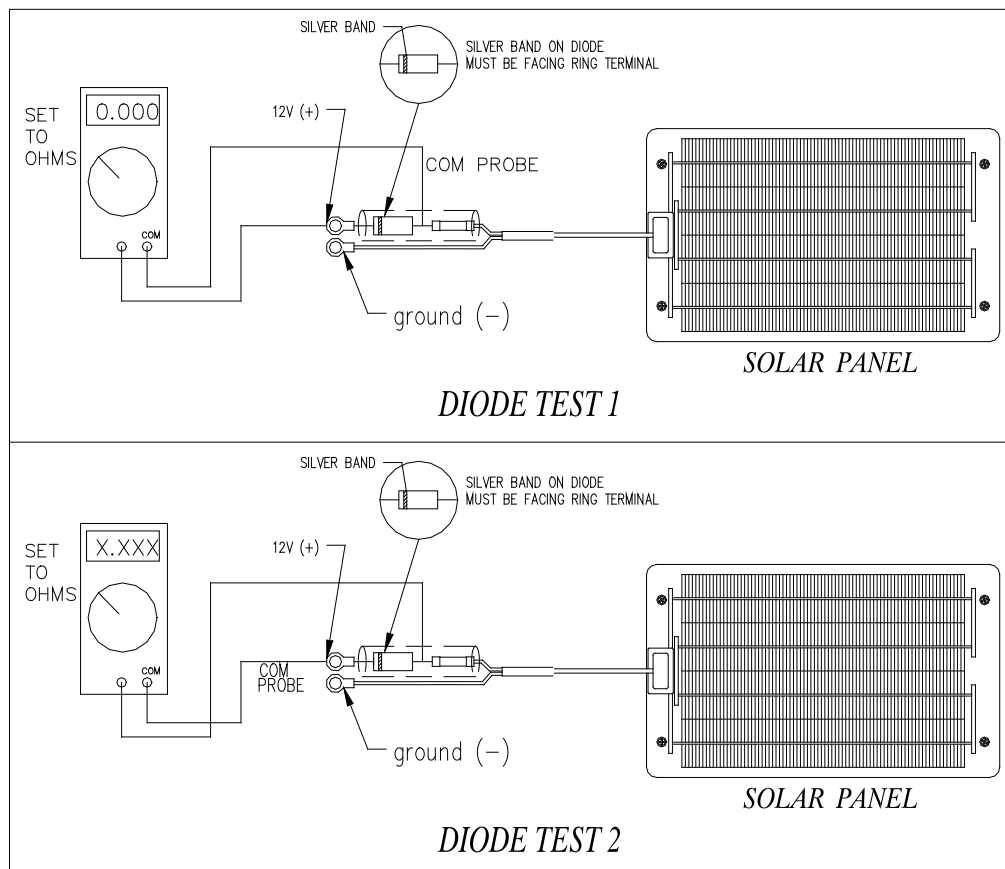

Figure 3-2
2. Refer to figure 3-2, Diode test #1. Using a multimeter, set the meter to read 'Ohms'. The 'COM' probe must be placed on the diode as shown in Diode Test #1. Check ohms resistance across the blocking diode. A zero or low ohms reading should be present across the diode. If not, reading a high resistance, the diode is bad or diode is installed backwards.
3. Refer to figure 3-2, Diode test #2. This test is similar to step #2 but the meter probes are reversed. The 'COM' probe must be placed on the diode as shown in Diode Test #2. Check ohms resistance across the blocking diode. A high resistance ohms reading should be present across the diode. If not, reading a zero or low, the diode is backwards.